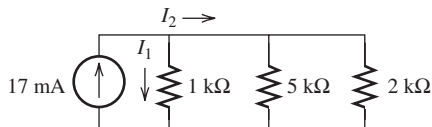

FIGURE P3.18 Circuit for Problem 3.18.
- 3.18** (A) Find I_1 and I_2 in Figure P3.18.
- 3.22** (A)* Using the current division formulas in Problem 3.21 to recompute the currents through 1 kΩ, 5 kΩ, and 2 kΩ in Figure P3.18.